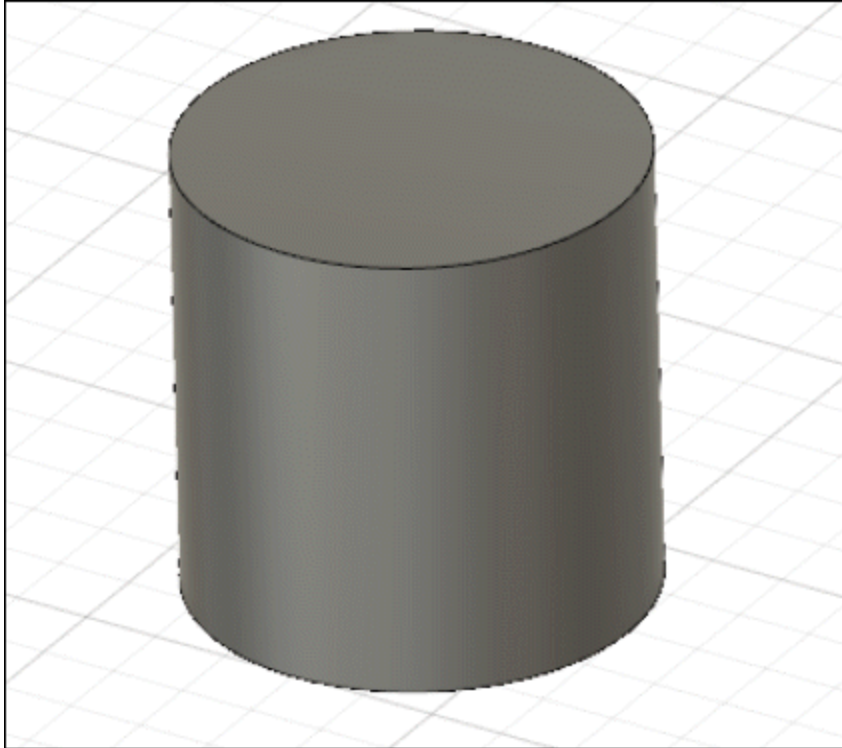

Figure-66. Cylinder created
- Click **OK** button from the **CYLINDER** dialog box to create the cylinder; refer to Figure-66.